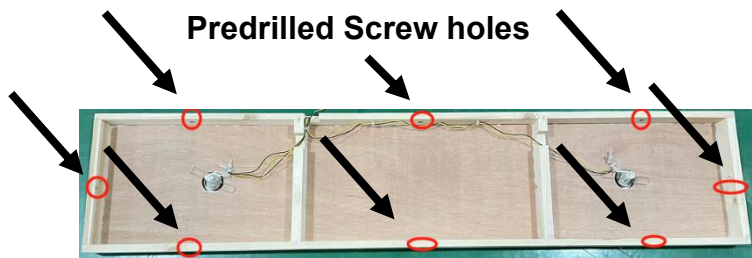

Figure 6
2. Proceed to locate the INTERIOR FRONT ROOF PANEL. It will need to be lifted and dropped down in between the side wall panels and front wall panels. Use the provided 5x40mm wood screws to secure the INTERIOR FRONT ROOF PANEL to the wall panels at the predrilled holes. (see Figure 6 and 7)